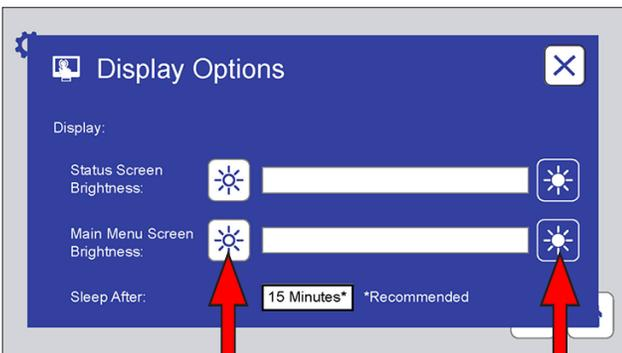

Figure 11.8e: For SOLAR EYE testers, touch a brightness icon on the Display Options screen to adjust the brightness of the status and menu screens.
- o Display Options (Figure 11.8e)